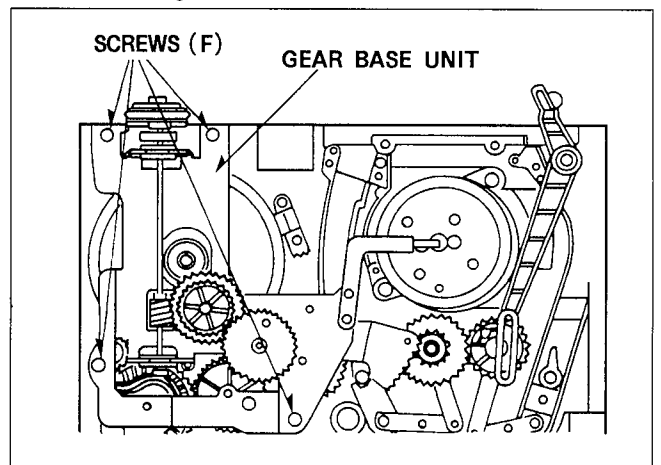

Figure M14-A
2. Unscrew the 4 (F) screws and remove Gear base Unit.
3. Carefully lift up the capstan rotor from the capstan housing, taking care so as not loose the 2 oil seals as shown in Figure M14-A.